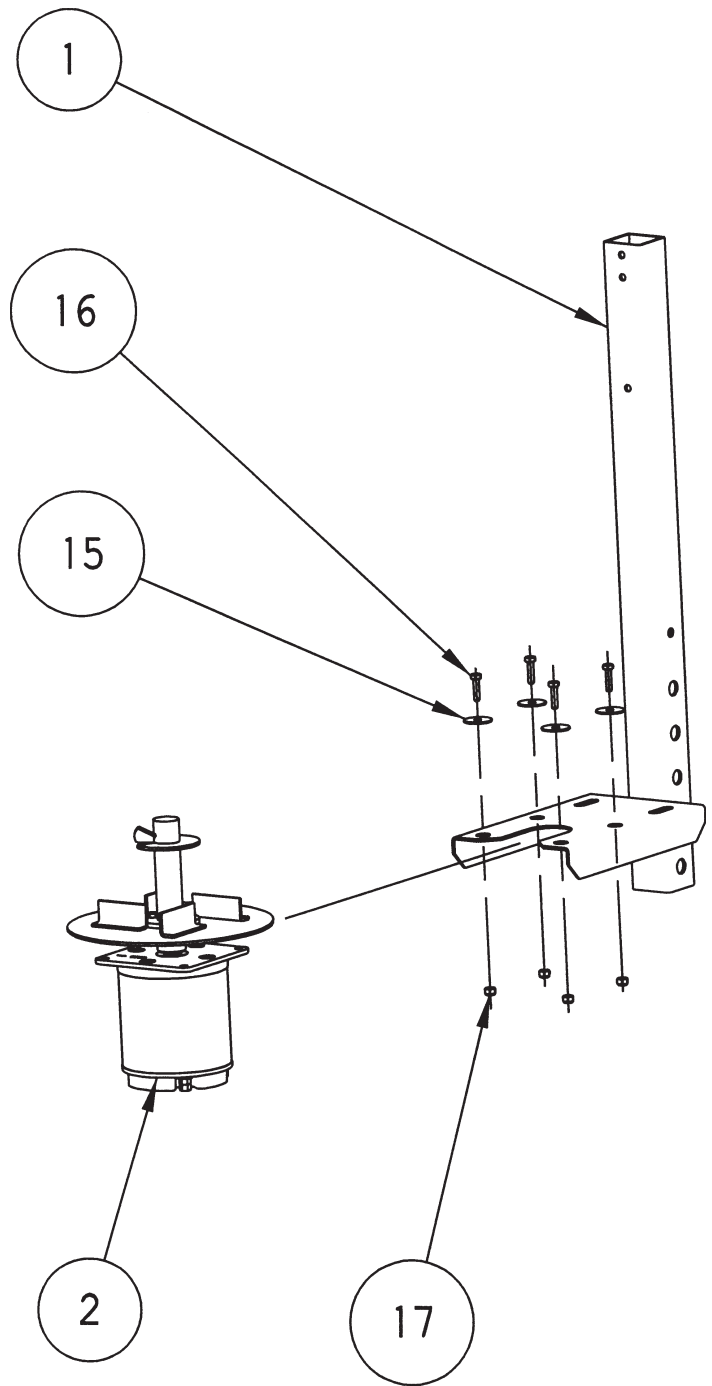

Fig. 2
See Fig. 2
Mount motor (2) to frame (1) with four 1/4-20 x 1 screws and nuts (15,16,17). The motor screws should be installed along with the large flat washers from the top side as shown in Fig. 2. Do not tighten the screws at this time. The motor will have to be aligned with the hopper later.